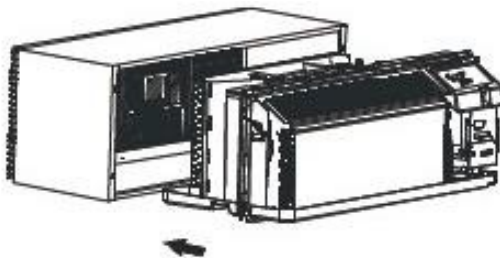
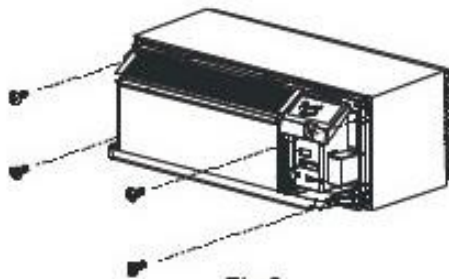

Fig.7
Fig.8
- Keep unit levelled when lifting and sliding it into wall sleeve. Once it is firmly against front of wall sleeve, secure with 4 screws and washers (supplied in the Sleeve Assembly) through the unit overhang holes. (See Fig. 7 and Fig. 8)